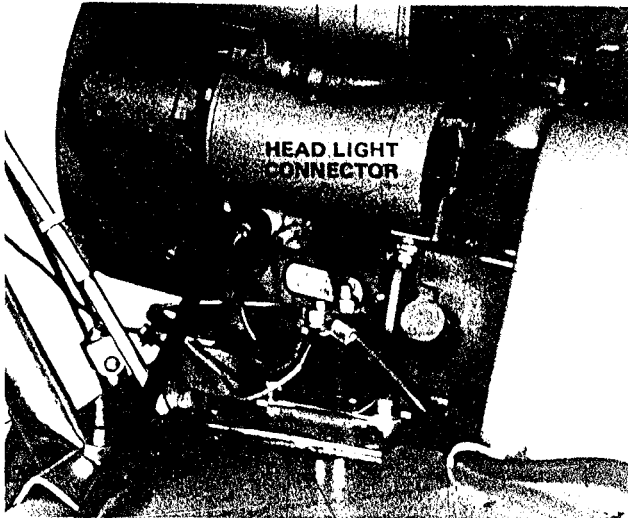

Figure 13
1. Push connector at end of headlamp wire onto terminal below center of starter motor (Fig. 13).